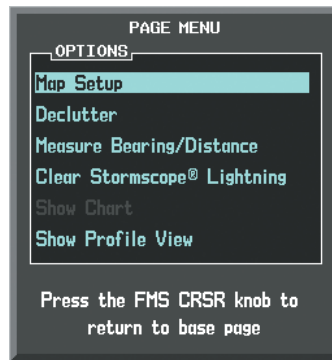

Figure 6-127 Navigation Map Page Menu
- 2) With 'Map Setup' selected (Figure 6-127), press the **ENT** Key.